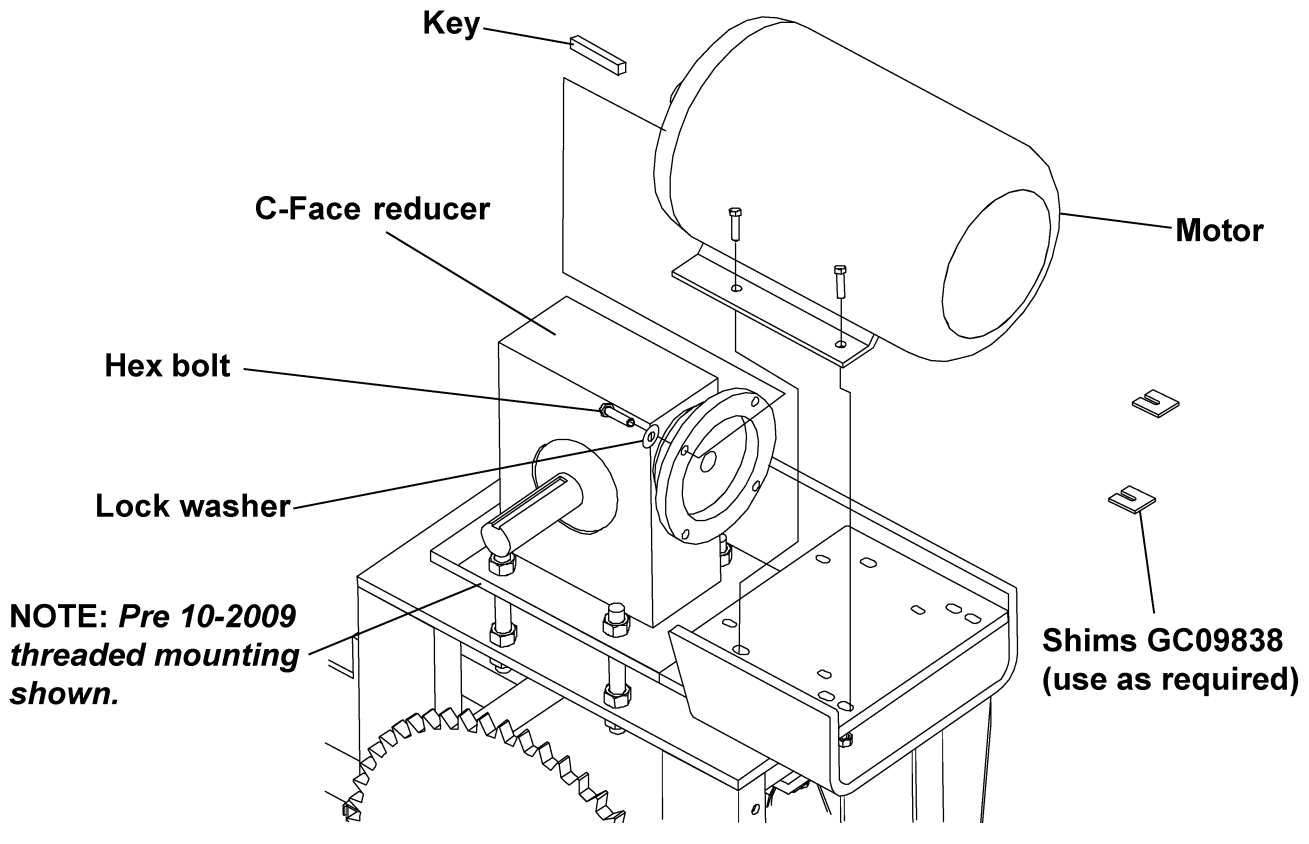

Figure 5X
A. Bolt the C-Face motor to the reducer using hex bolts, lock washers and a key. (See Figure 5X on Page 39.) (See the note on Page 39 for bolt size.)
- C. Assemble the Bottom Chain Guard Trap to the Bottom Chain Guard Weldment using 1/2" x 3" HHCS bolts, 1/2" split lock washers and 1/2" hex nuts. *(See Figure 5X.)*